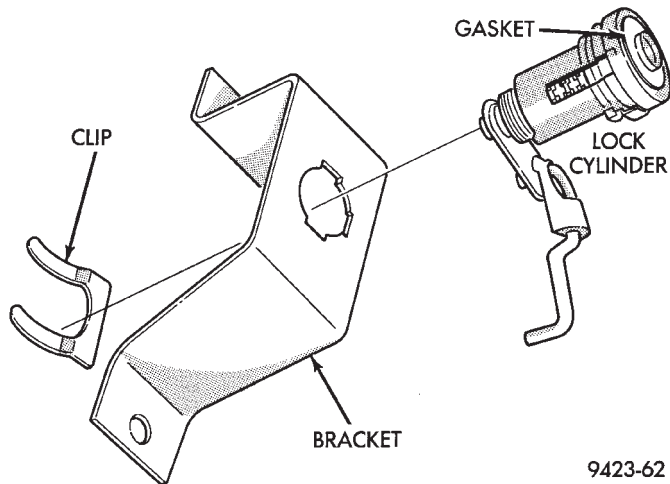

Fig. 6 Trunk Lock Cylinder
- (1) Remove trunk lock bracket.
- (2) Remove clip holding lock cylinder to trunk lock bracket (Fig. 6).
- (3) Separate lock cylinder from bracket.